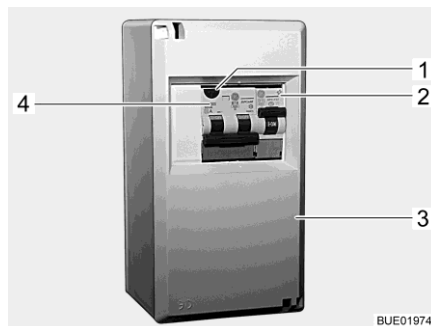
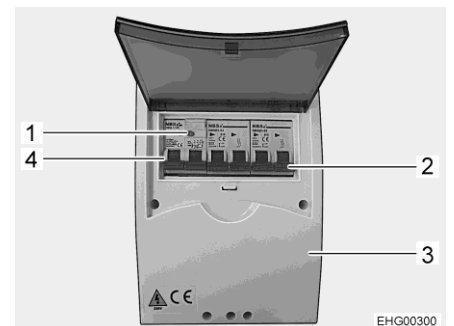

Fig. 202 230 V fuse box
Fig. 203 230 V fuse box (variant)
A combined fault current protection switch / safety cut-out (Fig. 202,4 or Fig. 203,4) in the fuse box (Fig. 202,3 or Fig. 203,3) protects the complete vehicle from fault current (0.03 A).
For vehicles with special equipment (e.g. air conditioning unit) an additional safety cut-out (10 A) (Fig. 202,2 or Fig. 203,2) secures the device.
- When the vehicle is connected to the 230 V power supply, press the test button (Fig. 202,1 or Fig. 203,1). The fault current protection switch must trip.